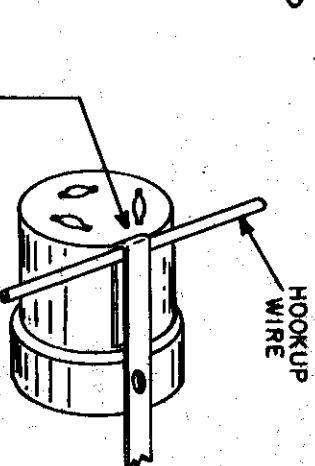

FIGURE 15E
- (✓) Place a piece of hookup wire at the creased point. Fold the end of the ground strap (around the hookup wire) back under itself. See Figure 15E. Remove the piece of hookup wire.